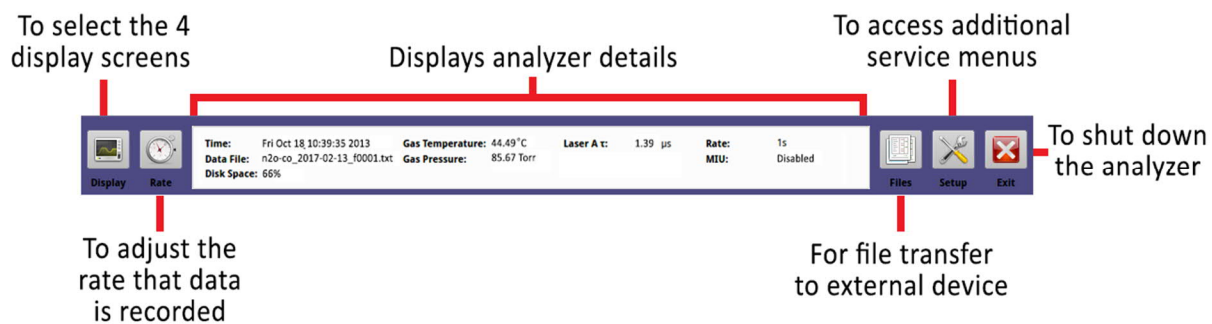
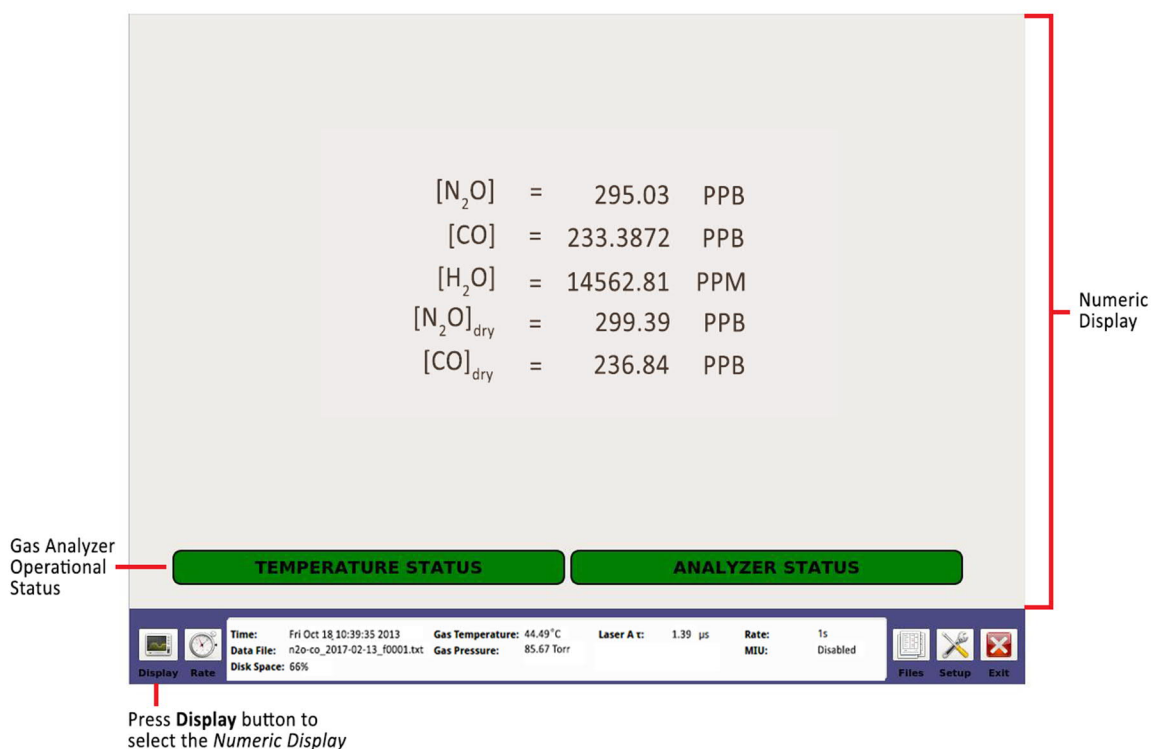
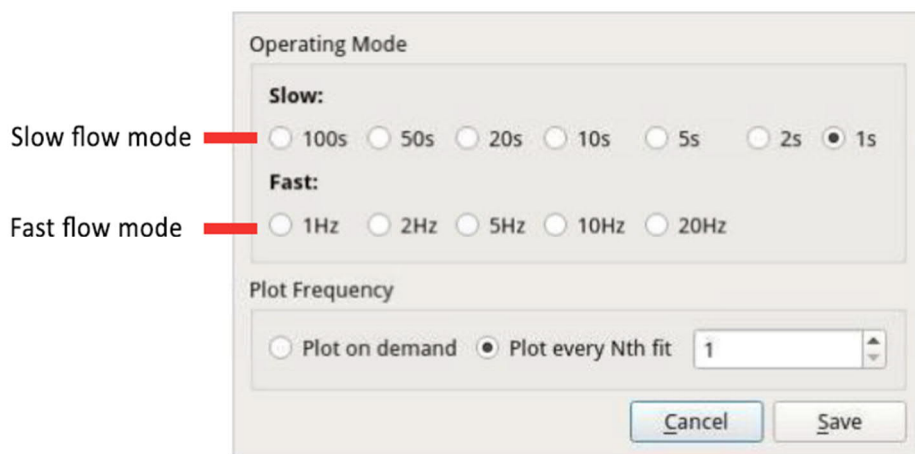

Figure 27: User Interface Control Bar
Figure 28: Numeric Display (GLA351-N2OCM)
Figure 32: Rate Control Screen (GLA351-N2OCM)
- b. If you don't make a selection within 120-seconds, the analyzer automatically defaults to the *Main Panel Numeric* display. (Figure 28)
This panel contains the *User Interface Control Bar* (Figure 27) and *Numeric Display* (Figure 28)
Use the control bar to operate the analyzer. (Figure 27)
- *Numeric Display* – Default display. Displays the numeric readout of the last measurement. (Figure 28)
Rate – Adjusts the rate at which data is written to the log file. (Figure 32)
Figure 28 shows an example of the *Numeric Display* screen for the GLA351-N2OCM. It displays the numeric readout of the last measurements of gas at a specific concentration. Concentrations vary depending on the type of analyzer.
When the Rate button (clock icon) on the *User Interface Control Bar* (Figure 27) is selected, a pop-up box appears to allow rate control adjustments to the operating mode and plot frequency. Figure 32 shows the *Rate Control Screen* for the GLA351-N2OCM.
The *Data Rate Control Adjustment* panel appears. (Figure 32)
The *Plot Frequency* radio buttons allow you to select between manually or automatically plotting the data. (Figure 32)